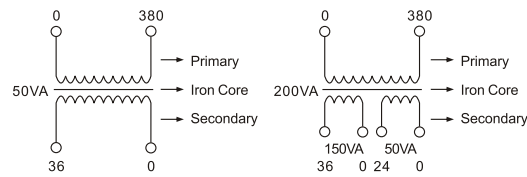
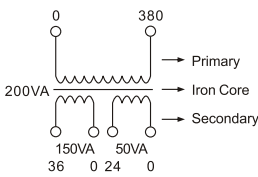
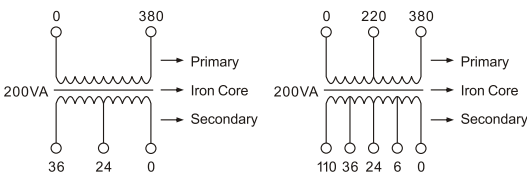
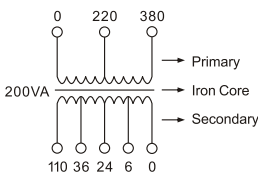

Figure 1
Figure 2
Figure 3
Figure 4
6.1 Before purchase please estimate the total capacity of the electric appliances you need referring to the structures from figure 1to figure 4. Choose transformers with a certain spare capacity to make sure that the instantaneous startup will not burn out the transformers.
7.2 Transformer model, specifications, capacity, primary and secondary voltage and capacity allocation of secondary voltage, or take the examples of the figure 1 to figure 4 as reference to choose the products that are suitable for you.
3.2.2 For the coil of this series of transformer, when there is only a secondary winding, it can bear full rated capacity; if there are multiple windings, each winding should be able to bear a given capacity; but the sum of each winding capacity shall not exceed the total capacity, as shown in figure 1, figure 2, figure 3, figure 4.
3.2.3.1 For example, in figure 1, for a HBK-50 type with capacity of 50VA, input voltage of 380V and output voltage of 36V, as there is only one winding for the primary as well as the secondary, it can bear full capacity of 50VA.
3.2.3.2 In figure 2, for a HBK-200 type with capacity of 200VA, input voltage of 380V and output voltage of 36V, 150VA and 24V, 50VA, as only one primary winding on the primary, it can bear the
3.2.3.3 In figure 3, for a HBK-200 type with capacity of 200VA, input voltage of 380V, output voltage of 36V and 24V, as there is only one primary winding on the primary, it can bear the rated capacity of 200VA. Secondary windings have center taps, so only when the highest voltage of 36V was being used alone for the secondary can reach 200VA-load. Only 133VA can be loaded if the output voltage is 24V rather than 200VA. The total current on the secondary is:
3.2.3.4 In figure 4, for a HBK-200 type with capacity of 200VA, input voltage of 380V and 220V, and output voltage of 110V, 36V, 24V and 6V, as center taps are on the both primary and secondary windings, the maximum operating current of the primary is: